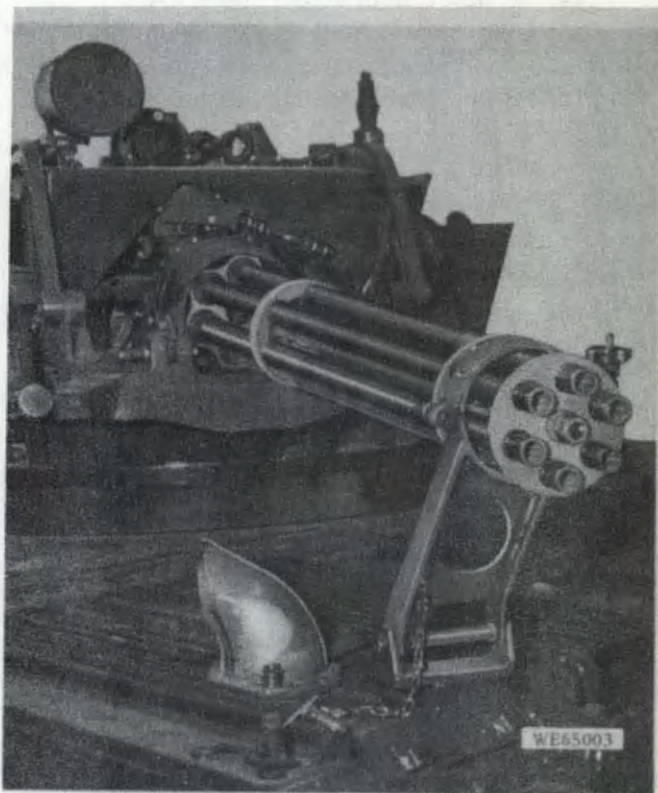

Figure 2-72. Cannon stowed.
*a. Place cannon in travel lock (fig. 2-72) as follows:*
(1) Remove the quick release pin from the travel lock base, raise the travel lock and reinstall pin in travel lock.
(2) Loosen hand lock nut and open travel lock clamp.
(3) Release azimuth and elevation brakes.